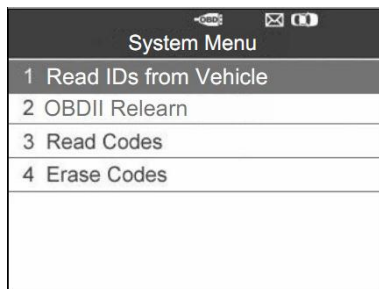

Figure 3-19 Sample TPMS Diagnostic Screen
5. The **TPMS Diagnostic** option allows user to **Read IDs from vehicle**, write IDs to vehicle (**OBDI Relearn**), **Read/Eraser codes** (Figure 3-19).
1. From **TPMS Diagnostic** Menu, use the **UP/DOWN** scroll button to select the **Read IDs from Vehicle**, and press the **Y** button (Figure 3-19).
1. From **TPMS Diagnostic** Menu, use the **UP/DOWN** scroll button to select the **OBDII Relearn** function to write IDs to vehicle directly without performing further procedures (Figure 3-19).
1. From **TPMS Diagnostic** Menu, use the **UP/DOWN** scroll button to select **Read Codes**, and press the **Y** button (Figure 3-19).
1. From **TPMS Diagnostic** Menu, use the **UP/DOWN** scroll button to select **Erase Codes**, and press the **Y** button (Figure 3-19).